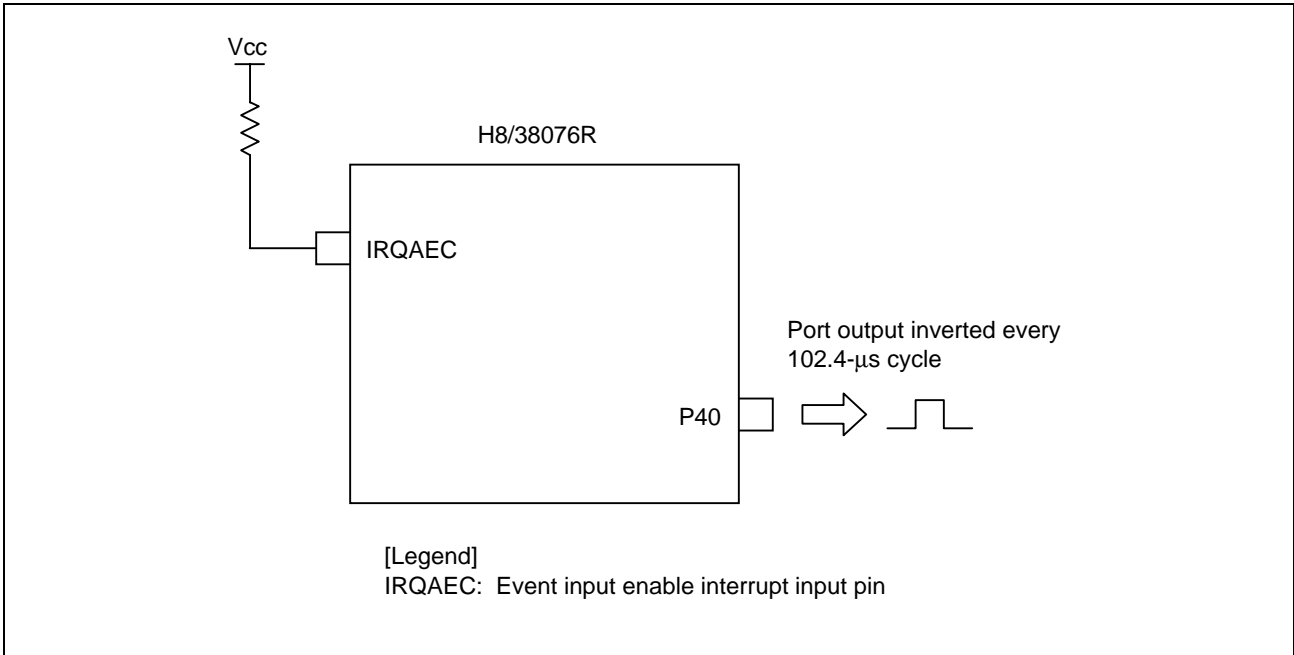

Figure 1 Example of AEC Interval Timer Operation in the 8-Bit Mode
- The asynchronous event counter is used as an interval timer in the 8-bit mode to invert P40 pin output in fixed cycles (102.4 μ s), as shown in figure 1.